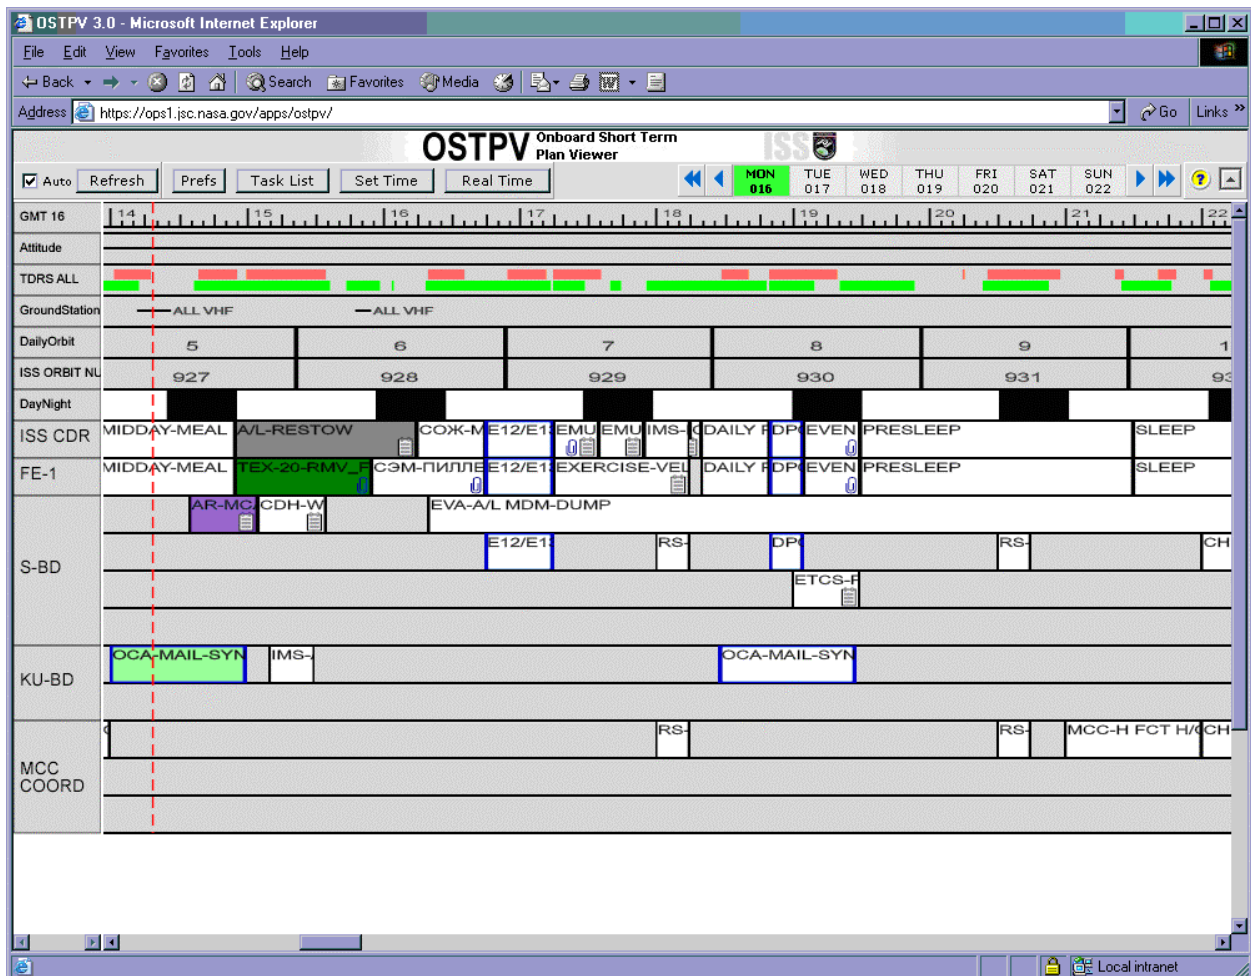

Figure 4-71. OSTPV window running
- c. The OSTPV main window is the primary window for the user to begin navigating for data about specific activities. Multiple days of activities are displayed in a scrollable timeline broken out into operator bands, as shown in Figure 4-71.